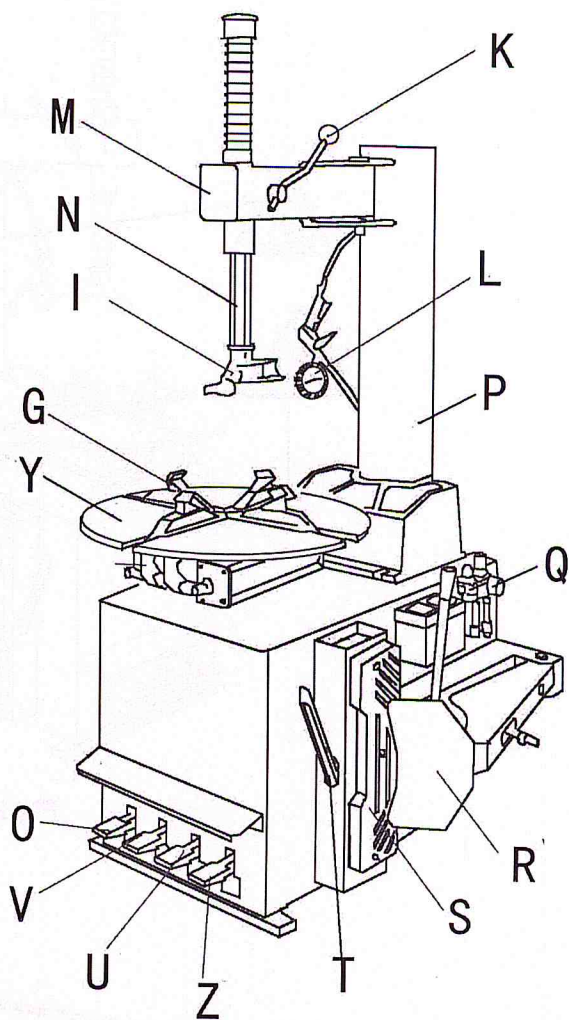

Fig.1
- Check that the equipment is in perfect condition, making sure that no parts are damaged or missing. Use fig.1 for reference.